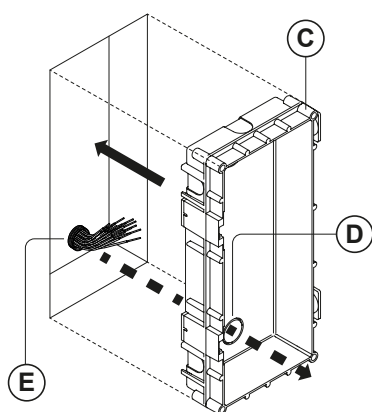

Fig. 60
3. Set the flush box (C) into the hole in the wall feeding the connecting cables (E) through the appropriate flush box opening (D), as shown in **Fig.60**;